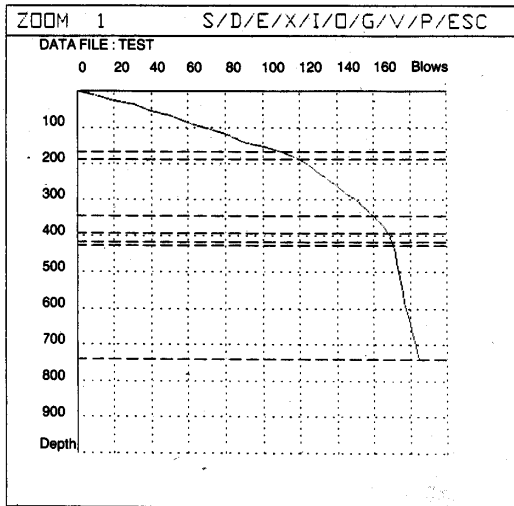

Figure 3.2 Blows versus penetration curve
- (i) Blow-pen: Plots blows versus penetration, (mm) see figure 3.2.